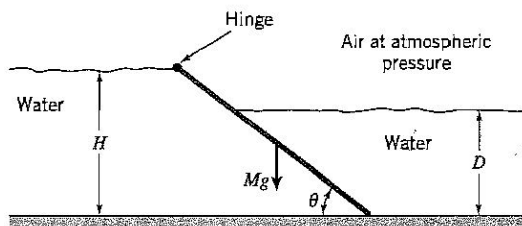

Figure P2.33
2.33 A rigid uniform thin gate of weight Mg and constant width W is pivoted on a frictionless hinge as shown in Figure P2.33. The water depth on the left hand side of the gate is H and remains constant. On the right hand side of the gate the level of water is